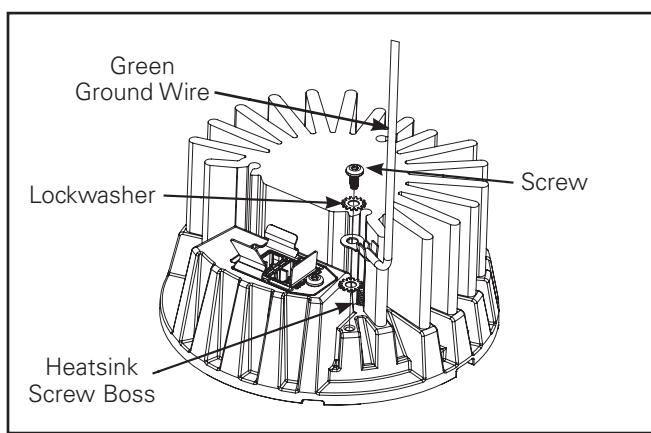

Figure 10
6. Find the green tether inside cylinder and attach it to the heatsink using the screw and lock washer located in the envelope attached to the tether. (Figure 10)